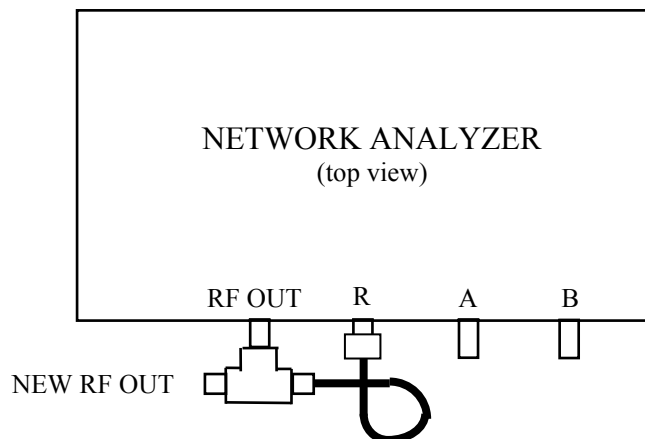

Figure 1. Proper network analyzer configuration for frequency response measurement.
1. Before turning on the network analyzer, connect the RF OUT port to the R port with the Type N "T" connector and the coaxial cable as shown in Figure 1 below.